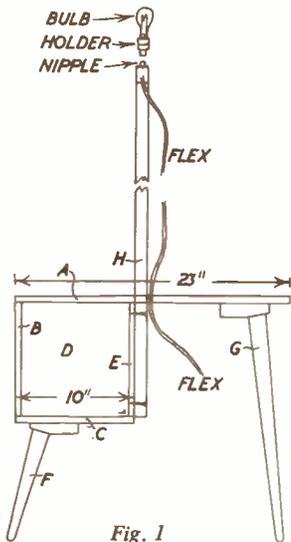
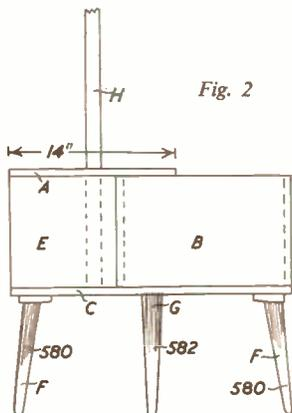

Fig. 1
Fig. 2
The side view (Fig. 1) and the front view (Fig. 2) give a good idea of the general construction. There are no difficult joints and the construction will present no problems to the average handyman.
Three contemporary legs, Hobbies No. 582, 20ins. high (one required) and No. 580, 10ins. high (two required), are used in the construction as indicated in Fig. 1. The lamp standard (H) is a new broom or hoe handle which may be purchased from the local ironmonger. It is secured by two screws to piece (E) as shown in the diagram in Fig. 1.
As seen in Figs. 1 and 3 the flex and the lamp standard (H) go through the table top (A). Holes of suitable size must be cut before assembling. The flex is wound round the standard as shown in Fig. 4. A spare piece is tied under (A)